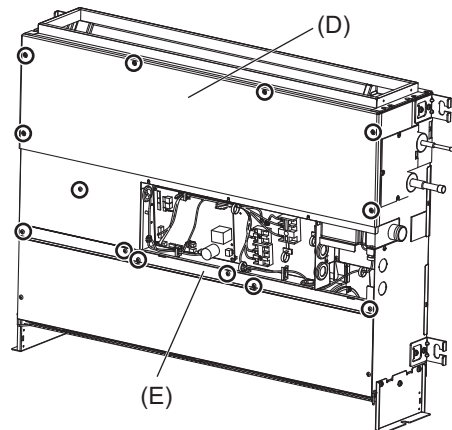

Fig.4
1. Remove the control box cover (A) with procedure [1]-1.
2. Remove the fixing screws on the front plate (D), (E) to remove it. (Fig. 4)